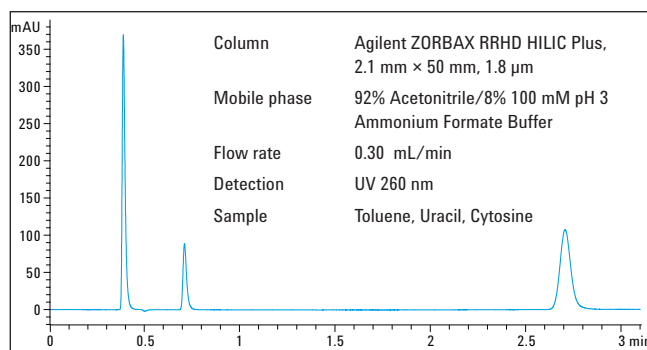

Figure 1. Agilent ZORBAX RRHD HILIC Plus QC chromatogram.
A typical quality control (QC) chromatogram for an Agilent ZORBAX RRHD HILIC Plus 2.1 mm × 50 mm, 1.8 µm column is shown in Figure 1. The QC test with the performance of the column is shown on the Column Performance Report enclosed with the column. The efficiency found on the QC Performance Report may be higher than the efficiency found in your laboratory. The QC test system may vary from the LC used in your lab, and has been modified from a standard system to minimize volume. This allows a better evaluation of the column and assures a more consistent product for the chromatographer.